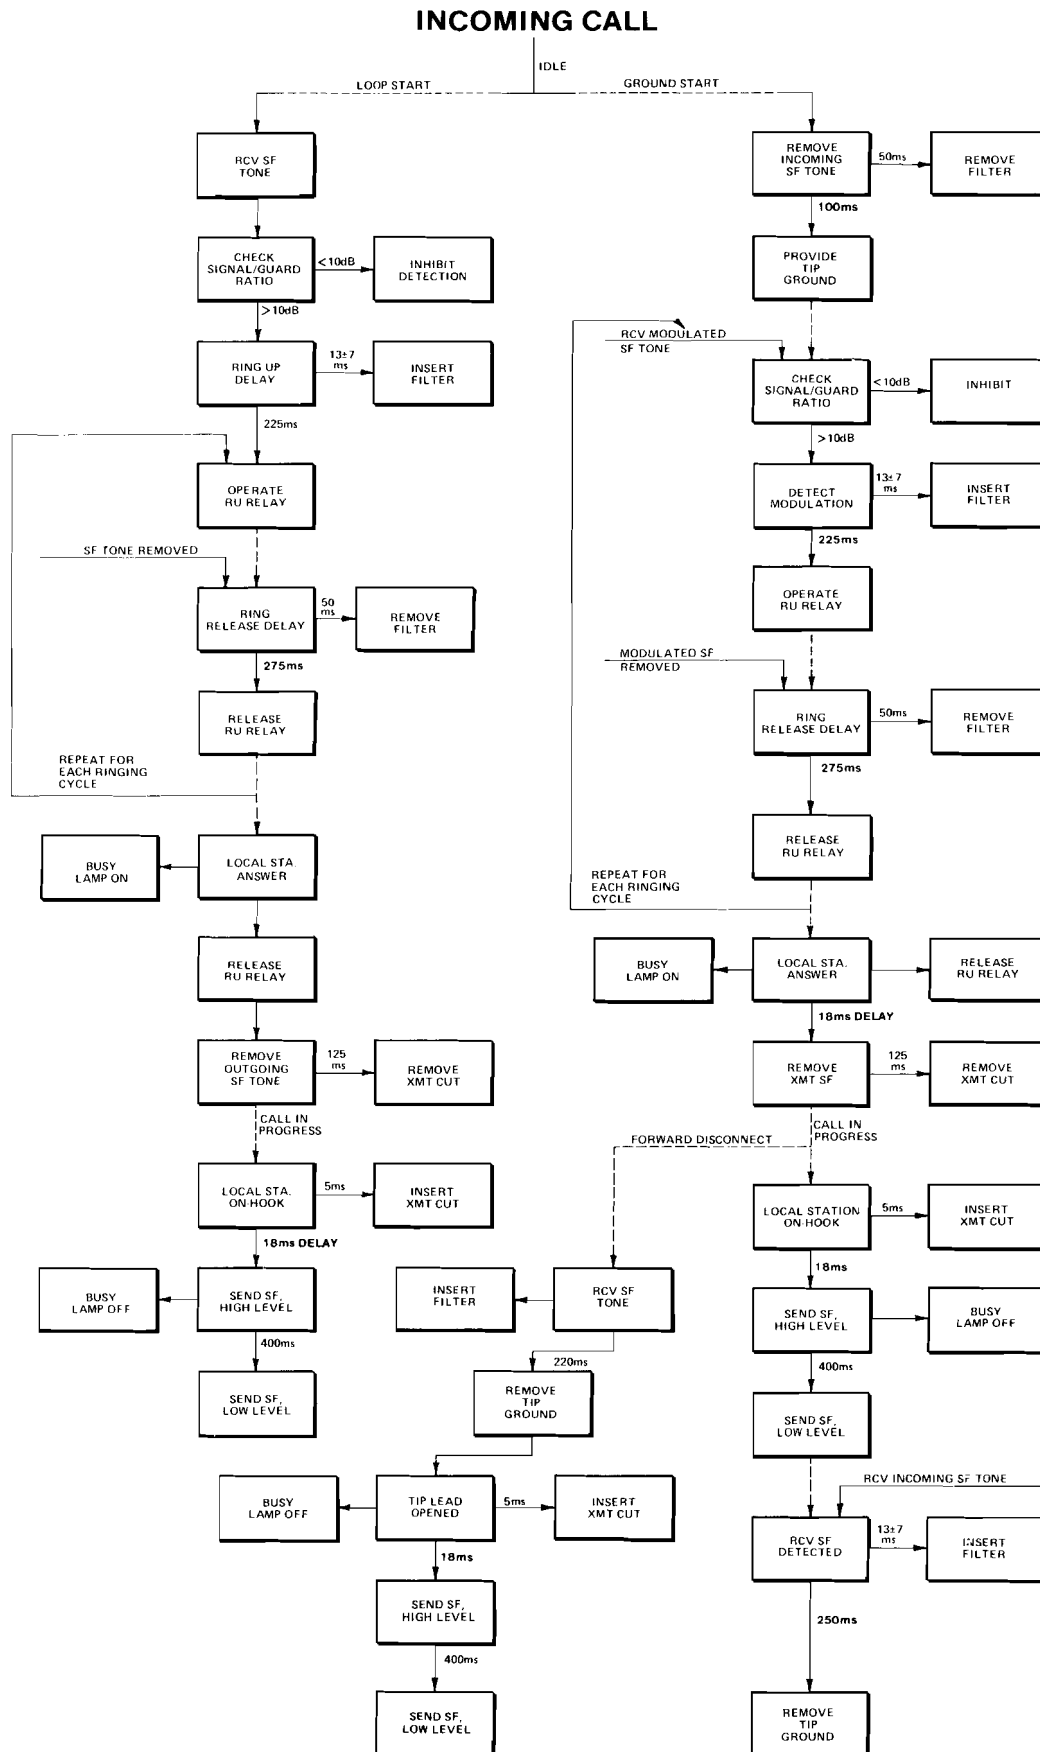

figure 10. Function sequence flowchart, incoming call
7.01 The *troubleshooting guide* in this section may be used in conjunction with the function sequence flowcharts (figures 10 and 11) in section 4 of this practice to assist in the installation, testing, or troubleshooting of the 6171 4Wire-to-4Wire SF-to-FXS Intermediate Repeater module. The guide is intended as an aid in the localization of trouble to a specific module. If a module is suspected of being defective, a new one should be substituted and the test conducted again. If the substitute module operates correctly, the original module should be considered defective and returned to Tellabs for repair or replacement. We strongly recommend that no internal (component-level) testing or repairs be attempted on the module. Unauthorized testing or repairs may void the module's warranty. Also, if the module is part of a registered system, unauthorized repairs will result in noncompliance with Part 68 of the FCC Rules and Regulations.